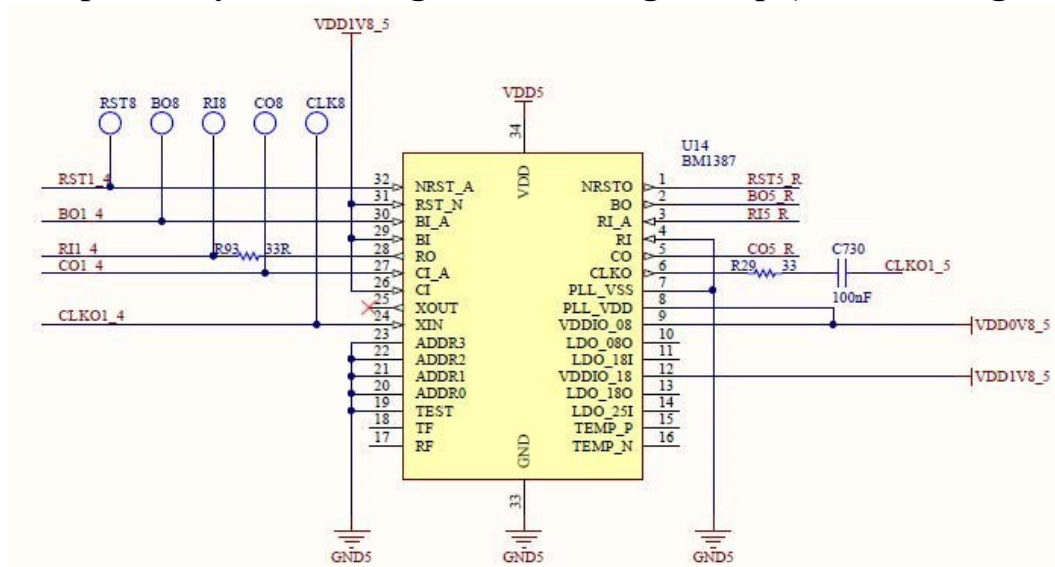

Fig 9. BM1387 Circuit Diagram
5) Principle Analysis of Voltage Domain Single Chip (see below Fig 9 and Fig 10):